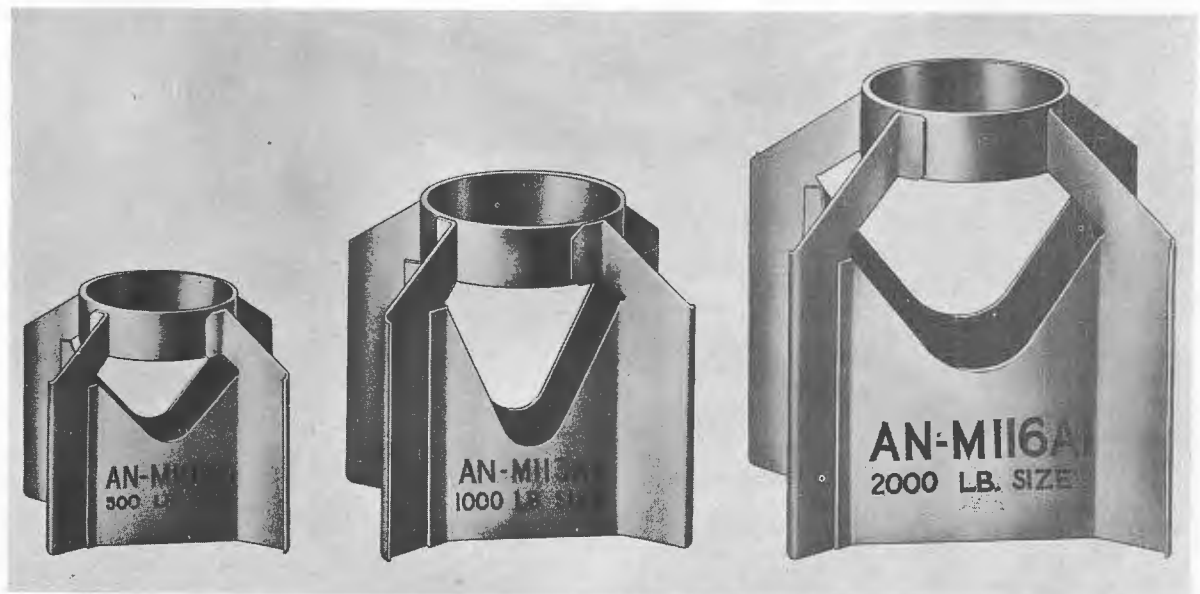

Figure 1-7.—Typical Box Fin Assemblies.
**BOX-TYPE FIN ASSEMBLY.** The box-type fin assembly, figure 1-7, generally used with larger bombs, consists of a fin sleeve that fits over the tail of the bomb and is held in place by a thin locknut. Sheet metal fin blades are attached to the fin sleeve and to each other by supports to form a square box-like assembly.